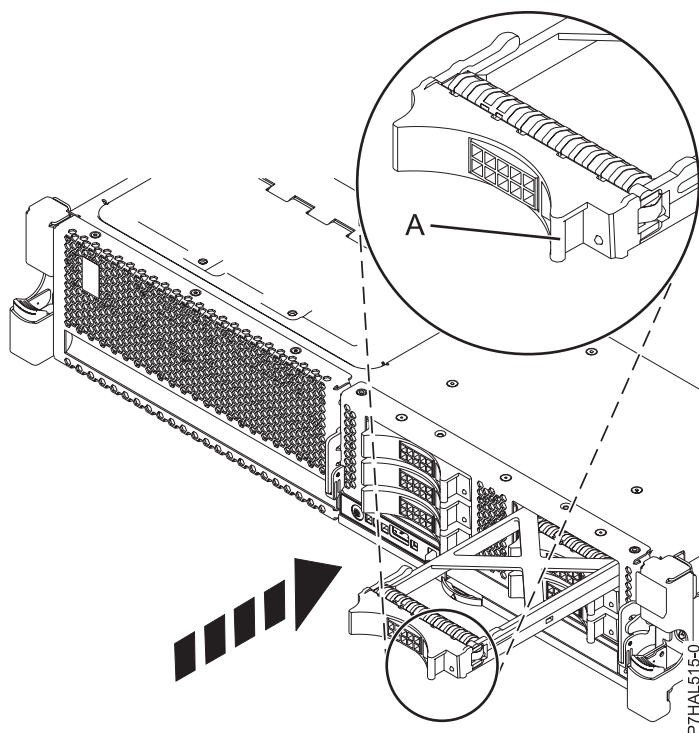

Figure 31. Installing a disk drive filler
2. Slide the disk drive filler all the way into the system or expansion unit, and push the disk drive filler handle (A) until it locks, as shown in Figure 31.